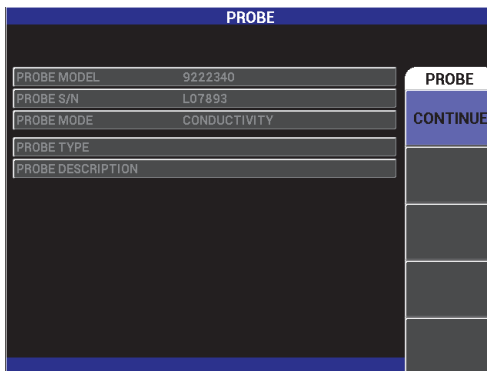

Figure 5-48 Accessing the Conductivity function
1. Connect the conductivity probe cable to the NORTEC 600 instrument's PROBE connector to access the conductivity function (see Figure 5-48 on page 161).